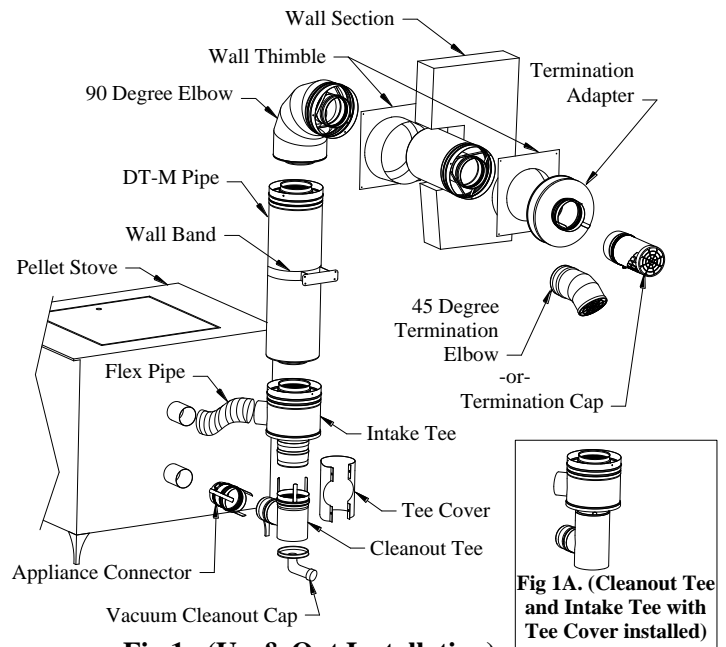

Fig 1. (Up & Out Installation)
- Determine the type of installation and termination (vertical or horizontal) that will be installed and obtain the necessary parts to complete the installation (See Figs. 1, 2, and 3 for installation examples and their required parts).
- b. If the vent planning was to include a vertical rise, a Tee section or 3" to 4" tee increaser must be used to turn the vent vertical. A Tee Cover is installed around the tee to provide a barrier against radiant heat from the vent. Position tee so that it is vertical, and the cleanout tee cap is at the bottom (See Fig. 1). Expand the seam of the Tee Cover and wrap it around the Tee so that the snout of the Tee passes through the hole in the Tee Cover. Connect Tee to the Appliance Connector, Intake Tee and Tee Cap. Note: A Vacuum Cleanout Cap (VCC) may be
installed in place of a standard Tee Cap to facilitate in future maintenance and cleaning of the system. See “Vacuum Cleanout Cap” Section for installation and maintenance instructions (See Fig. 1). After the Tee is properly connected to the adjoining items, complete Tee Cover installation by clamping the Cover shut with the hardware provided (See Fig. 1A).
The Mitered Termination Screen is a straight length of vent with a spark arrestor integrated into the end. It is designed to direct flue gases perpendicularly away from the outside wall of the building. (See Figs 1 & 2)
The 45 Degree Termination Elbow is used in through-the-wall installations and provides for redirection of exhaust gases if needed or desired. (See Figs. 1 & 2)